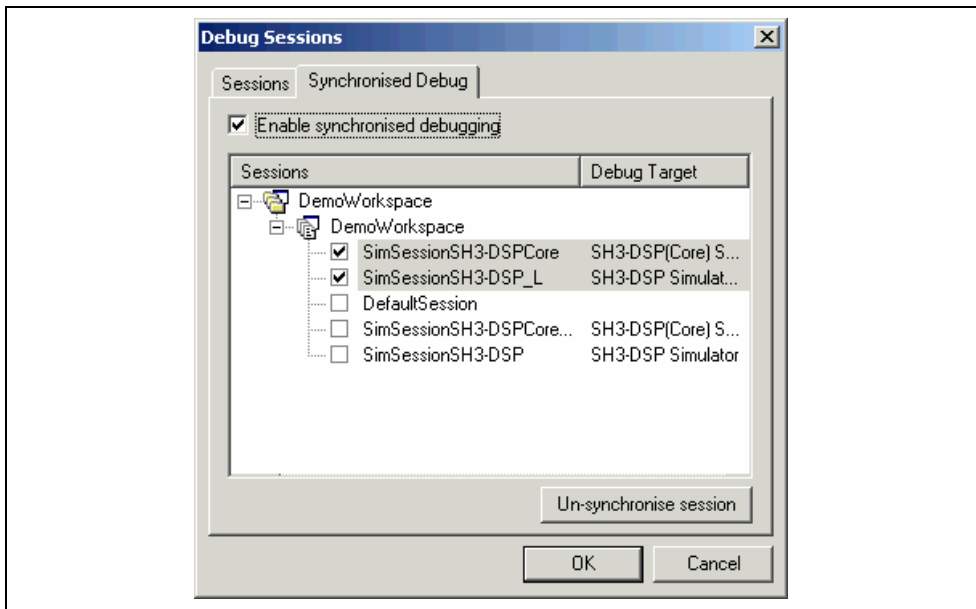

Figure 4.91 Simulator Memory Resource Dialog Box
2. Select the “Synchronized Debug” tab of the dialog. The dialog displayed in figure 4.91 is displayed.